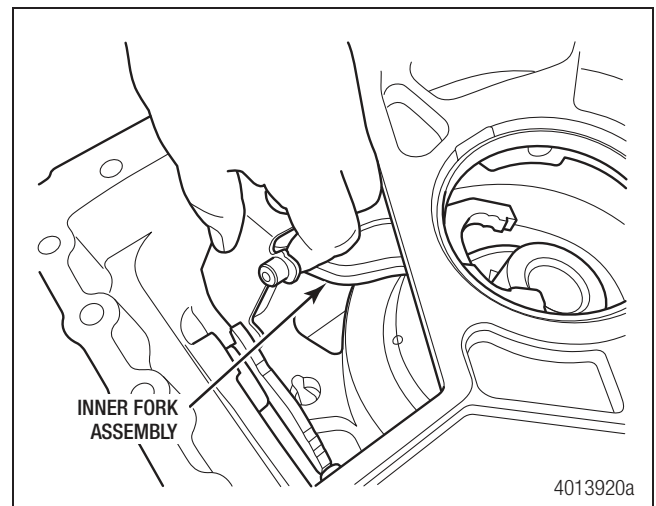
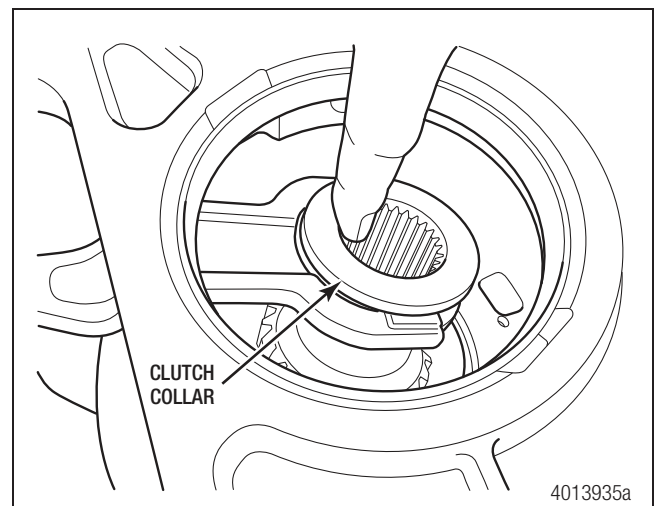

Figure 7.9
Figure 7.10
4. Lower the inner fork assembly down into the front case half and capture the clutch collar in the fork. Engage the clutch collar gear teeth with the sun gear teeth and install the clutch collar in the case. Figure 7.9 and Figure 7.10.